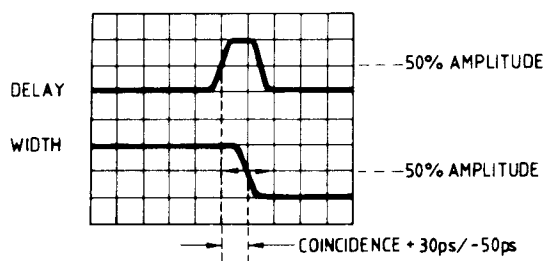

Figure 5-11
17. Adjust trailing edge of width pulse via A128 R239 to within limits of +300 ps or -50 ps (see Figure 5-11) of coincidence with leading edge of delay pulse.